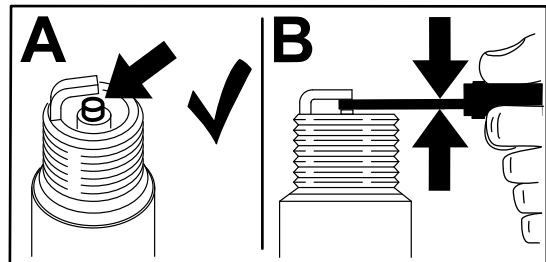

Figure 64
4. Locate and remove the spark plug(s) as shown in Figure 64.